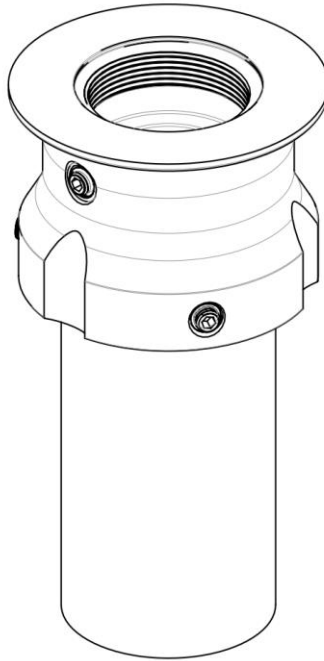
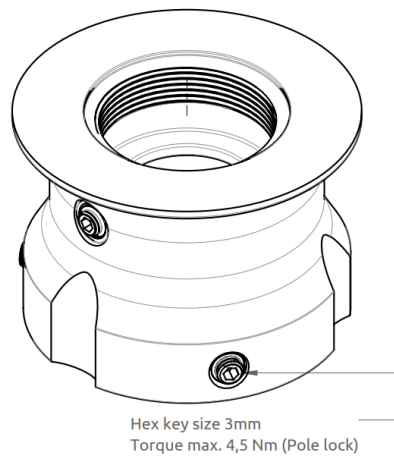
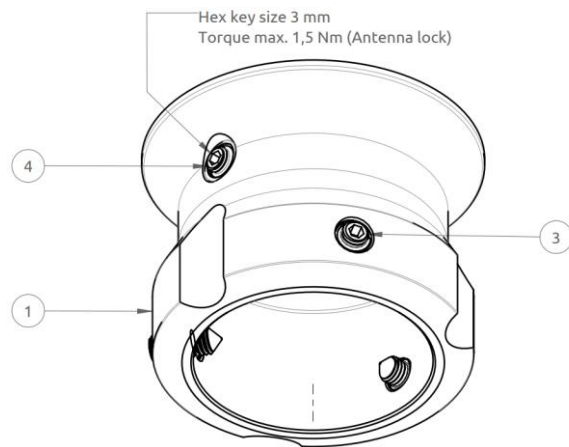

Figure 21: Pole Mount (2.0" pipe, Ø53.0 mm), Antenna Unit.
Figure 22: Pole Mount (2.0" pipe, Ø53.0 mm), Antenna Unit.
Figure 23: Pole Mount (2.0" pipe, Ø53.0 mm), Antenna Unit.
The Pole Mount (2.0" pipe, Ø53.0 mm), Antenna Unit is illustrated in Figure 21 to Figure 23.
4. Screw the pole mount (clockwise) on the LT-3130 Antenna Unit, and fasten the antenna lock pinot screw, as illustrated in Figure 23 (max torque = 1.2 Nm)
5. The LT-3130 Antenna Unit and pole mount can now be mounted on the 2.0" pipe. Fasten the three pole lock pinot screws, as illustrated in Figure 22 (max torque = 4.5 Nm)
**NOTE:** The Pole Mount (2.0" pipe, Ø53.0mm), Antenna Unit only supports a 2.0" pipe. The pinot screws (antenna and pole lock) torques are specified in Figure 22 and Figure 23. The pole mount is made of milled aluminum (anodized). The pinot screws are made of A4 stainless steel.